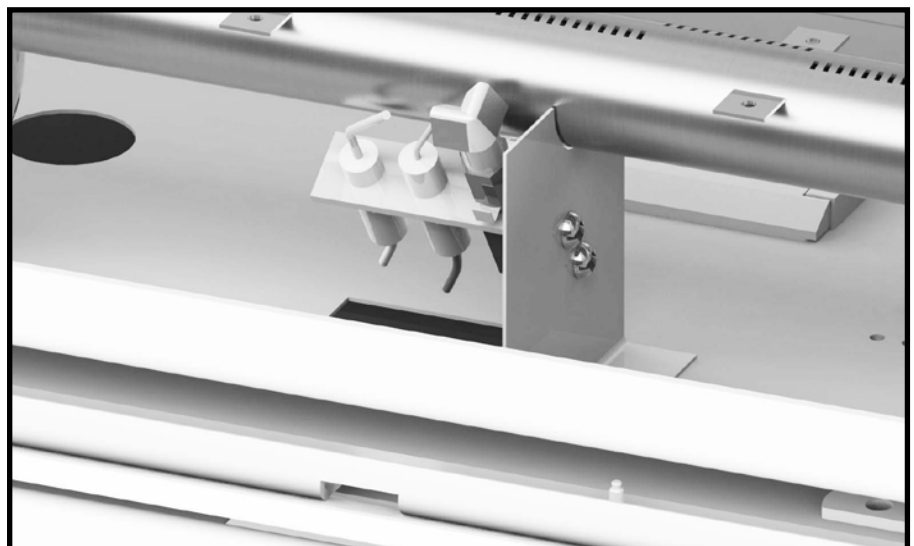

Figure 73: Attaching pilot to burner leg.
6. Attach the pilot to the burner support leg as shown in Figure 73.